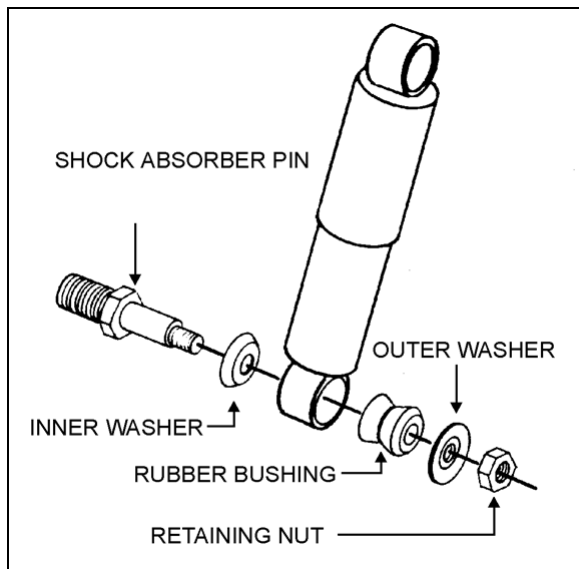

FIGURE 44: SHOCK ABSORBER
1. Remove nuts and washers from shock absorbers on upper and lower mounting pins, taking care to identify the inner and outer washers to ease reinstallation. Refer to figure 44 for details.
rubber bushing) on each shock absorber pin (Fig. 44).